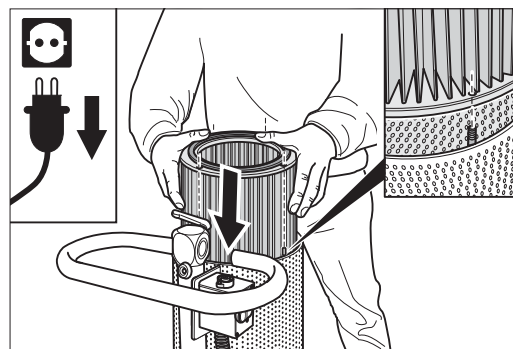

Fig. 30 Slide the filter onto the four screws from above.
- 2 Slide the filter onto the four screws from above. Make sure not to damage the filter. The system will not work properly otherwise (Fig. 30).